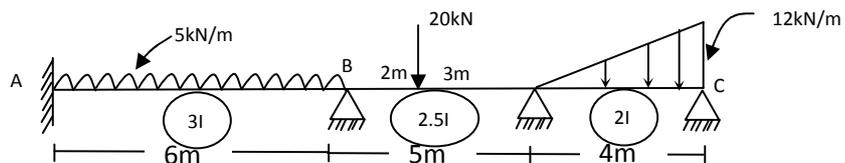

Fig.Q6
6. Analyze the beam shown in Fig.Q6 using Kani's method. Draw BMD and elastic curve.